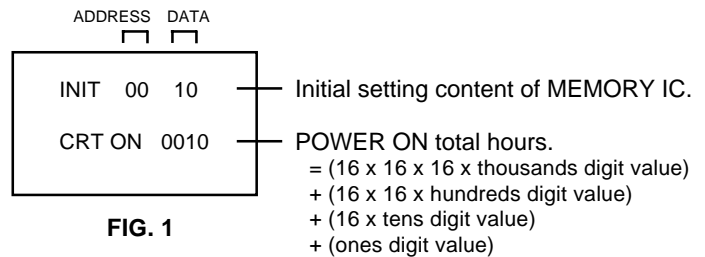

FIG. 1
2. While holding down VOLUME button on front cabinet, press key 6 on remote control for more than 2 seconds. ADDRESS and DATA should appear as FIG 1.